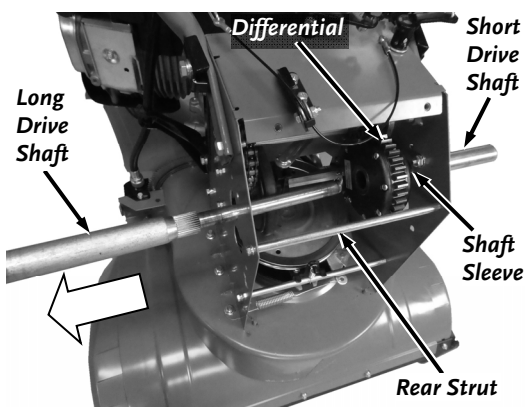

Figure 73
11. Remove the two rear Strut Bolts and Lock Washers using a 10mm Wrench and remove the Strut (**Figure 73**).
7. Install the rear Strut (**Figure 73**).